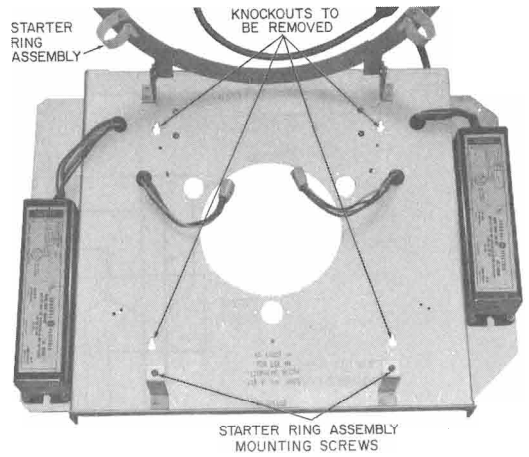
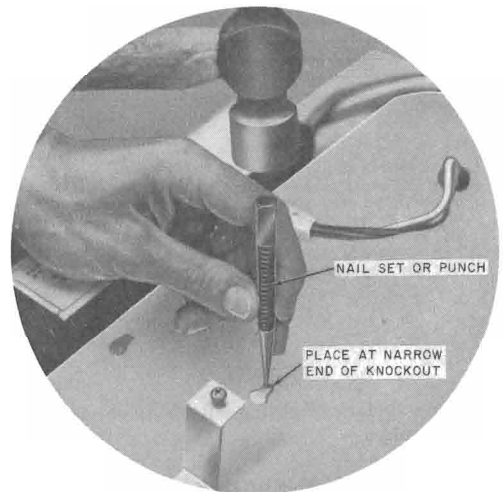

Fig. 11—KS-19207 Light Fixture With Starter Ring Assembly in Raised Position
Fig. 12—Removing Knockout
- (h) Position KS-19207 light fixture in a suitable work area, loosen the two starter ring assembly mounting screws, and raise the starter ring assembly as shown (Fig. 11).
(i) Remove the knockouts (Fig. 11) as shown in Fig. 12.